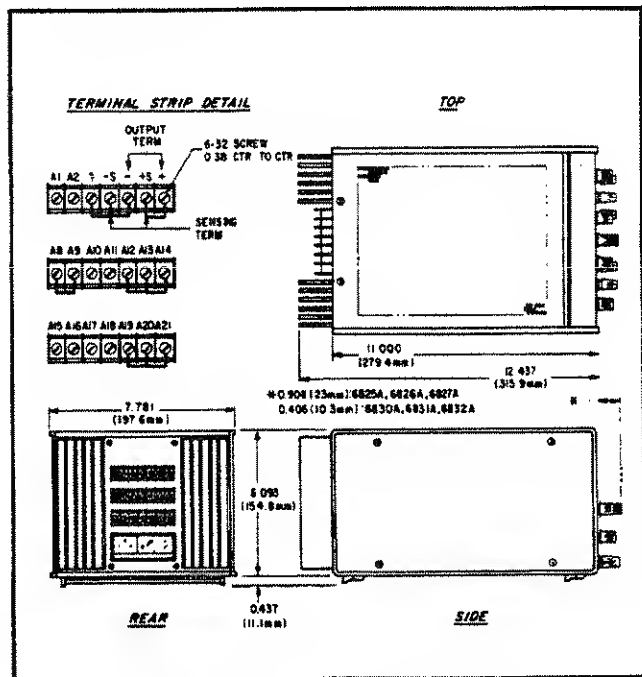

Figure 2-1. Outline Diagram
<p>Input Power: 104-127/208-254Vac (switchable), 48-63Hz, 1.0A, 150W</p> <p>Meters: Individual voltage and current meters. DC accuracy is 3% of full scale. AC accuracy is 5% of full scale with sinusoidal, 100Hz input.</p> <p>Meter Ranges (DC): $\pm 2.4\text{V}$, $\pm 24\text{V}/\pm 0.24\text{A}$, $\pm 2.4\text{A}$</p> <p>Meter Ranges (AC): 1.6V (uncal), 16V rms/0.16A rms, 1.6A rms</p> <p>Temperature Ratings: Operating: 0 to 55°C. Storage: -40 to +75°C.</p> <p>Cooling: Convection cooling is employed. The supplies have no moving parts.</p> <p>Dimensions: See outline diagram, Figure 2-1.</p> <p>Weight: 18 lbs. (8.2 kg.) net, 21 lbs. (9.5 kg.) shipping.</p>	<p>Source Effect (Line Regulation) Continued: Voltage (X1 Range): $.01\% + .2\text{mV}$ Voltage (X4 Range): $.01\% + 2\text{mV}$ Current: $.01\% + 250\mu\text{A}$</p> <p>PARD (Ripple and Noise): Rms/p-p (20Hz to 20MHz) at any line voltage and under any load condition within rating. Voltage (X1 Range): 1.5mV rms/4mV p-p Voltage (X4 Range): 5mV rms/15mV p-p Current: 3mA rms/10mA p-p</p> <p>Temperature Coefficient: Output change per degree Centigrade change in ambient following 30 minutes warm-up. Voltage (X1 Range): $.01\% + .35\text{mV}$ Voltage (X4 Range): $.01\% + 1.5\text{mV}$ Current: $.02\% + 100\mu\text{A}$</p> <p>Drift (Stability): Change in output (dc to 20Hz) over 8 hour interval under constant line, load, and ambient following 30 minutes warm-up. Voltage (X1 Range): $.03\% + 1\text{mV}$ (Pot wiper jump effect may add 5mV) Voltage (X4 Range): $.03\% + 5\text{mV}$ (Pot wiper jump effect may add 50mV) Current: $.1\% + 200\mu\text{A}$ (Pot wiper jump effect may add 1.5mA)</p>
2-14 Figure 2-1 illustrates the outline shape and dimensions of the BPS/A.